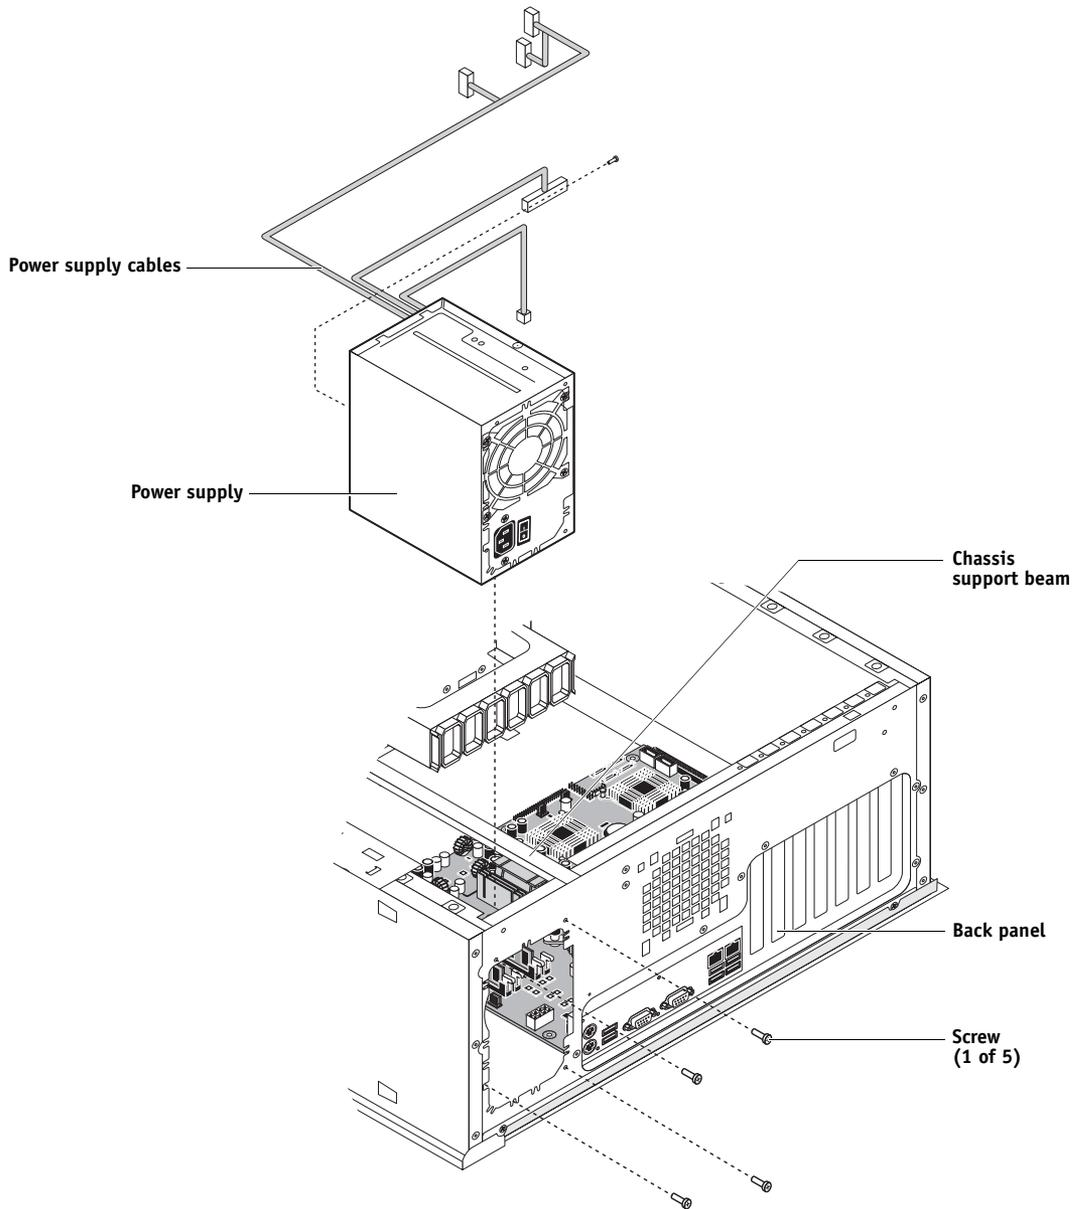

FIGURE 30: Removing/replacing the power supply
- 8. Remove four of the five screws that attach the power supply to the back of the chassis (see Figure 30 on page 89).**
2. Attach the power supply to the chassis with the four screws that you removed earlier (see Figure 30 on page 89).
8. Locate the reusable tie-wrap that you removed earlier and use it to attach the loose section of the power cable to the chassis support beam (see Figure 30 on page 89).